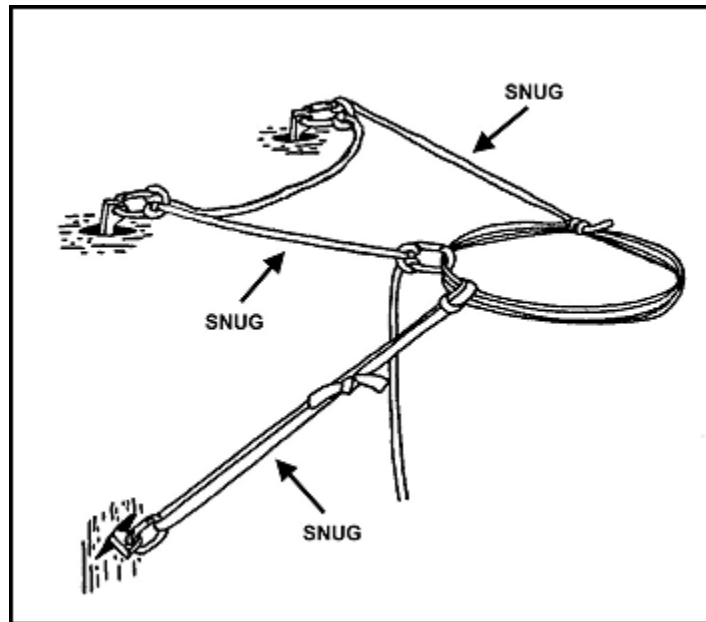

Figure 6-27. Anchoring a belay.
- (1) Each anchor must be placed in line with the direction of pull it is intended to support.
- (2) Each anchor attachment must be rigged "independently" so a failure of one will not shock load remaining placements or cause the belayer to be pulled out of position.
- (3) The attachment between the anchor and the belayer must be snug to support the stance. Both belayer's stance and belay anchors should absorb the force of a fall.
- (4) It is best for the anchors to be placed relatively close to the belayer with short attachments. If the climber has to be tied-off in an emergency, say after a severe fall, the belayer can attach a Prusik sling to the climbing rope, reach back, and connect the sling to one of the anchors. The load can be placed on the Prusik and the belayer can come out of the system to render help.
- (5) The belayer can use either a portion of the climbing rope or slings of the appropriate length to connect himself to the anchors. It's best to use the climbing rope whenever possible, saving the slings for the climb. The rope is attached using either figure eight loops or clove hitches. Clove hitches have the advantage of being easily adjusted. If the belayer has to change his stance at some point, he can reach back with the guide hand and adjust the length of the attachment through the clove hitch as needed.
- (6) The anchor attachments should also help prevent the force of a fall from "rotating" the belayer out of position. To accomplish this, the climbing rope must pass around the "guide-hand side" of the body to the anchors. Sling attachments are connected to the belayer's seat harness (or bowline-on-a-coil) on the guide-hand side.
- (7) Arrangement of rope and sling attachments may vary according to the number and location of placements. Follow the guidelines set forth and remember the key points for belay anchors; "in line", "independent", and "snug". Figure 6-27 shows an example of a common arrangement, attaching the rope to the two "downward" anchors and a sling to the "upward" anchor. Note how the rope is connected from one of the anchors back to the belayer. This is not mandatory, but often helps "line-up" the second attachment.